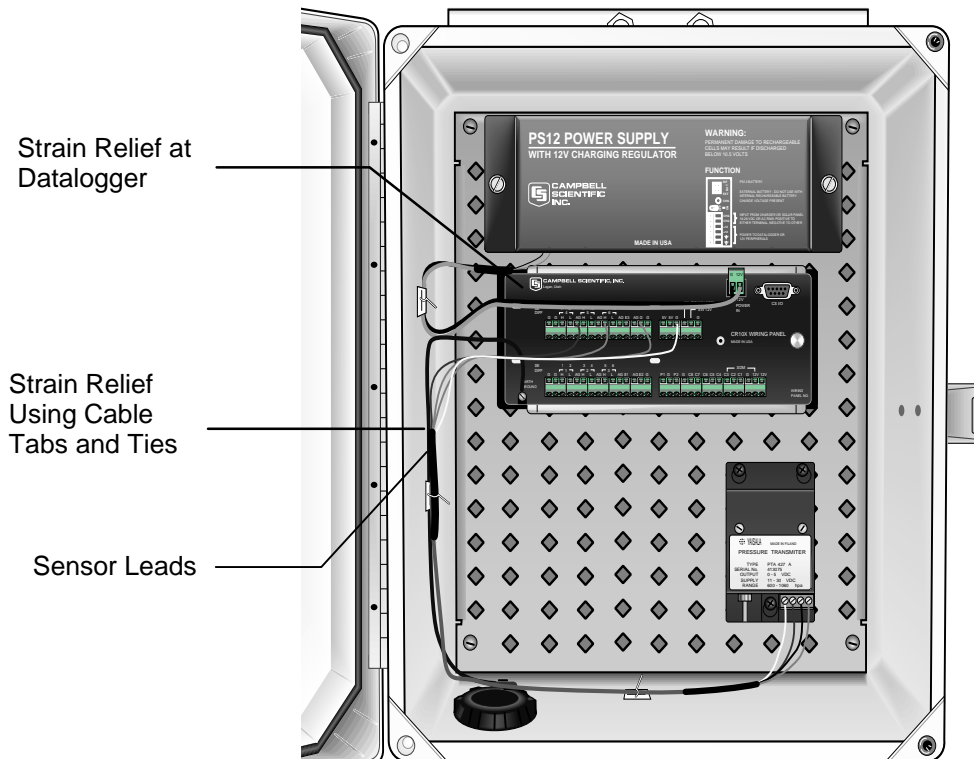

FIGURE 3.2-1. Routing and Wiring Sensor Leads to the Datalogger
1. After the sensors have been mounted, route the sensor leads through the entry hole in the bottom of the enclosure and to the datalogger. Secure the leads to the left side of the enclosure using cable ties and tabs (Figure 3.2-1). Any excess cable should be neatly coiled and secured to the tabs.